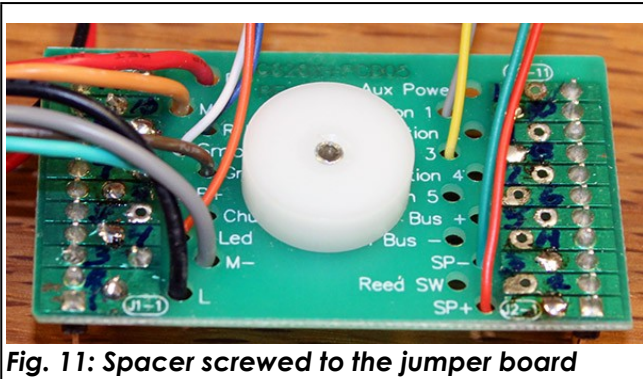
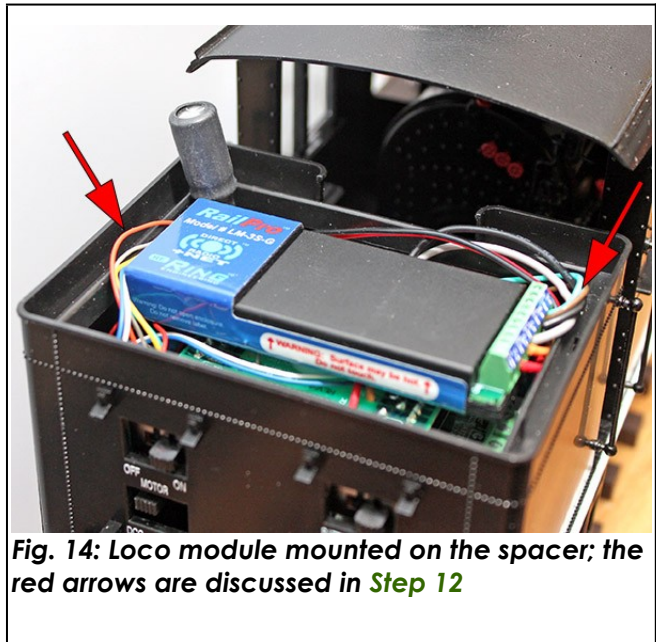

Fig. 11: Spacer screwed to the jumper board
Fig. 14: Loco module mounted on the spacer; the red arrows are discussed in Step 12
- ◆ Applied a thin coat of "Amazing" Goop* adhesive (<http://eclecticproducts.com/products/amazing-goop.html>) to the top of the spacer, then set the loco module on that, placed a scrap of ½" wood on top, and stretched a length of masking tape across the fuel bunker to hold the loco module in place until the Goop dried. **Fig. 11 - Fig. 14** show the spacer and the loco module glued to it.
One more adjustment is needed – push the loco module wires clear of the slot that supports the bunker cover. As you can see in **Fig. 14**, even though I folded the wires under the loco module as instructed in **Step 11**, they still projected over the slot (red arrows).